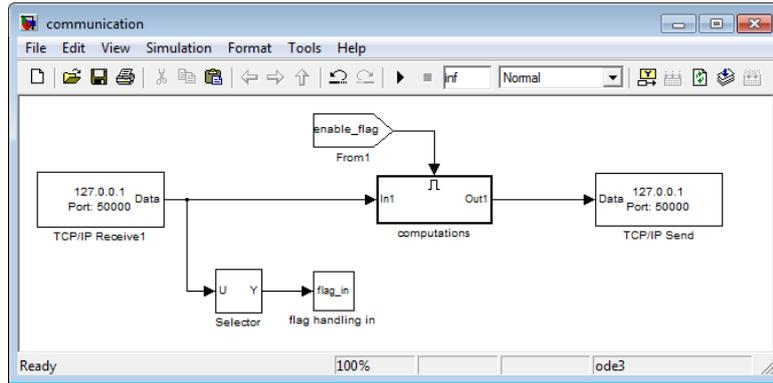

Figure 3.59: TCP/IP communication with Matlab/Simulink (do not change this structure)
(1) Start Matlab/Simulink and open the file `communication.mdl` in the folder "examples/TCPIP", see figure 3.59.